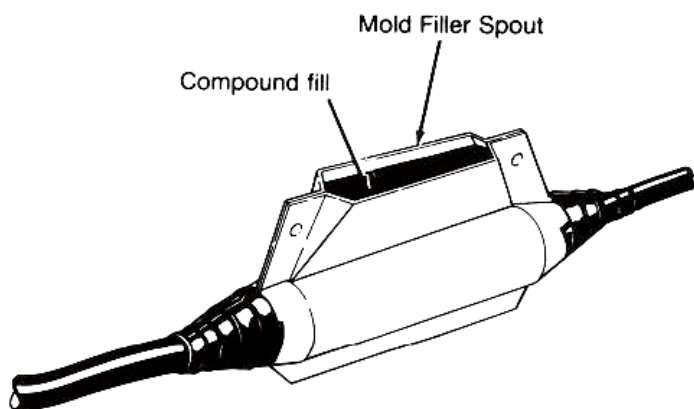

Figure 9
6.5 Fill mold until compound reaches a level that is within the mold's filler spout. (Figure 9)